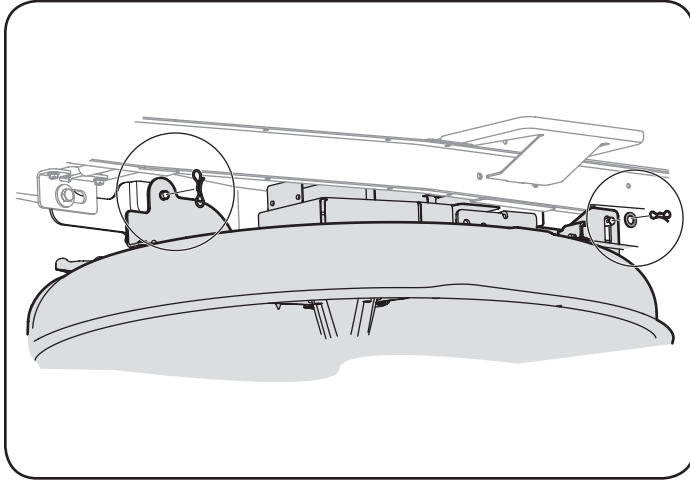

Figure 35
- Remove the remaining bow-tie cotter pins securing the deck to the unit, as shown in Figure 35.